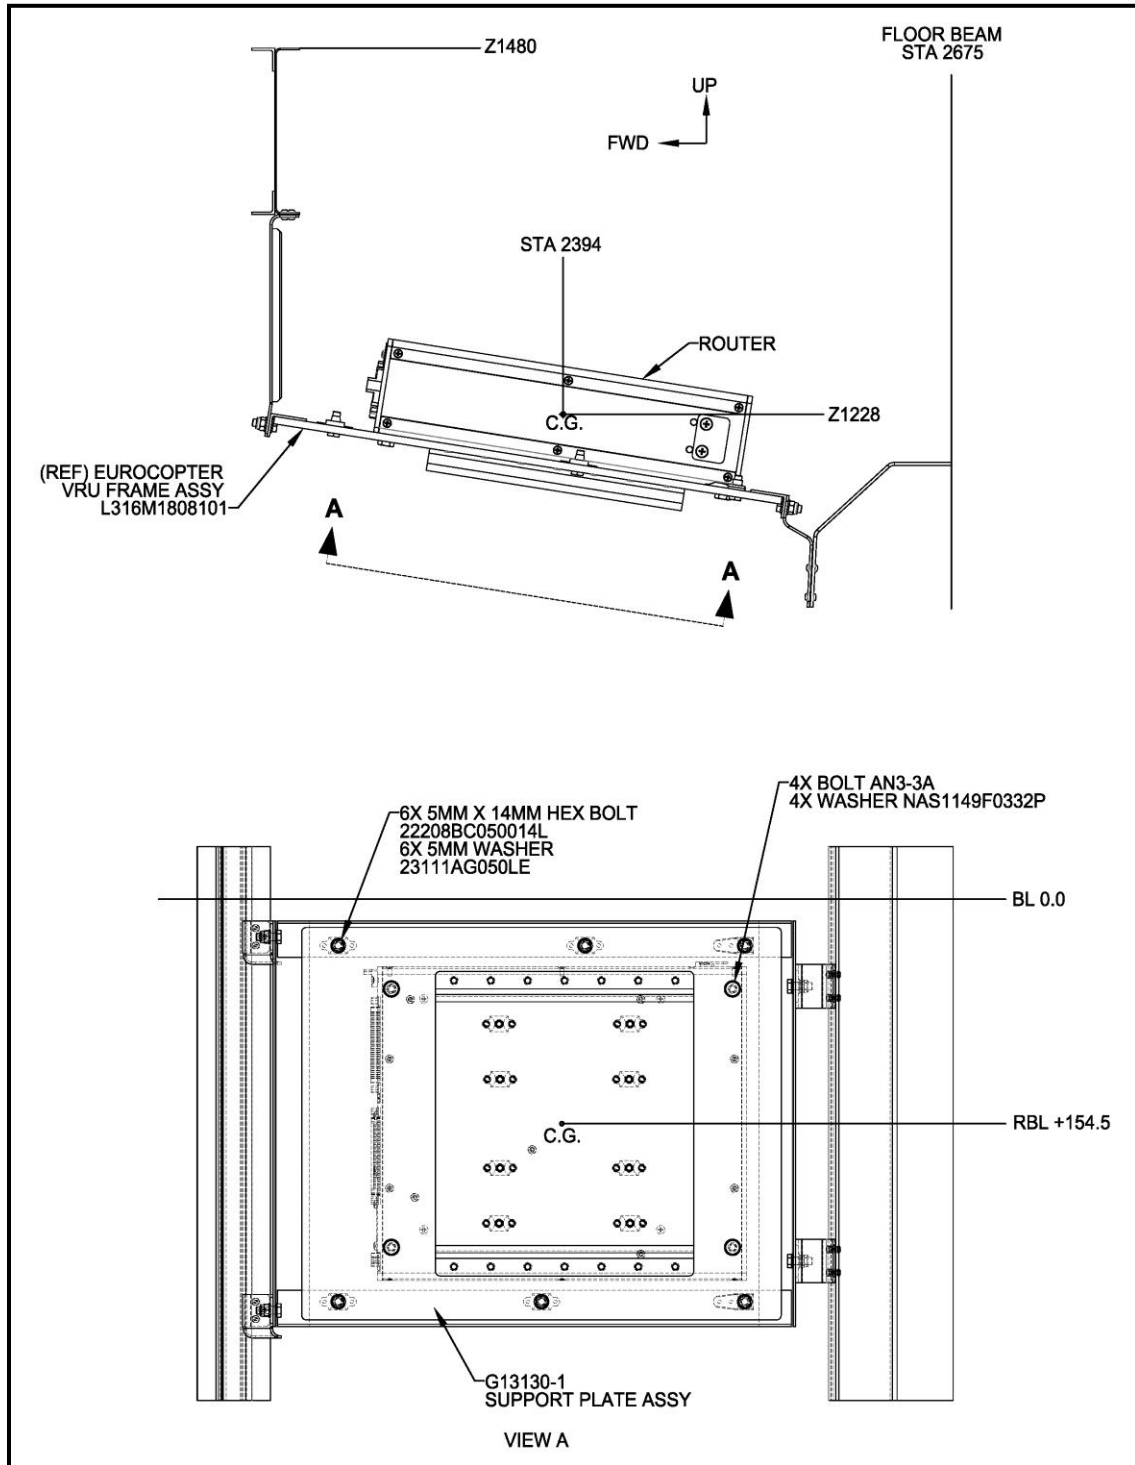
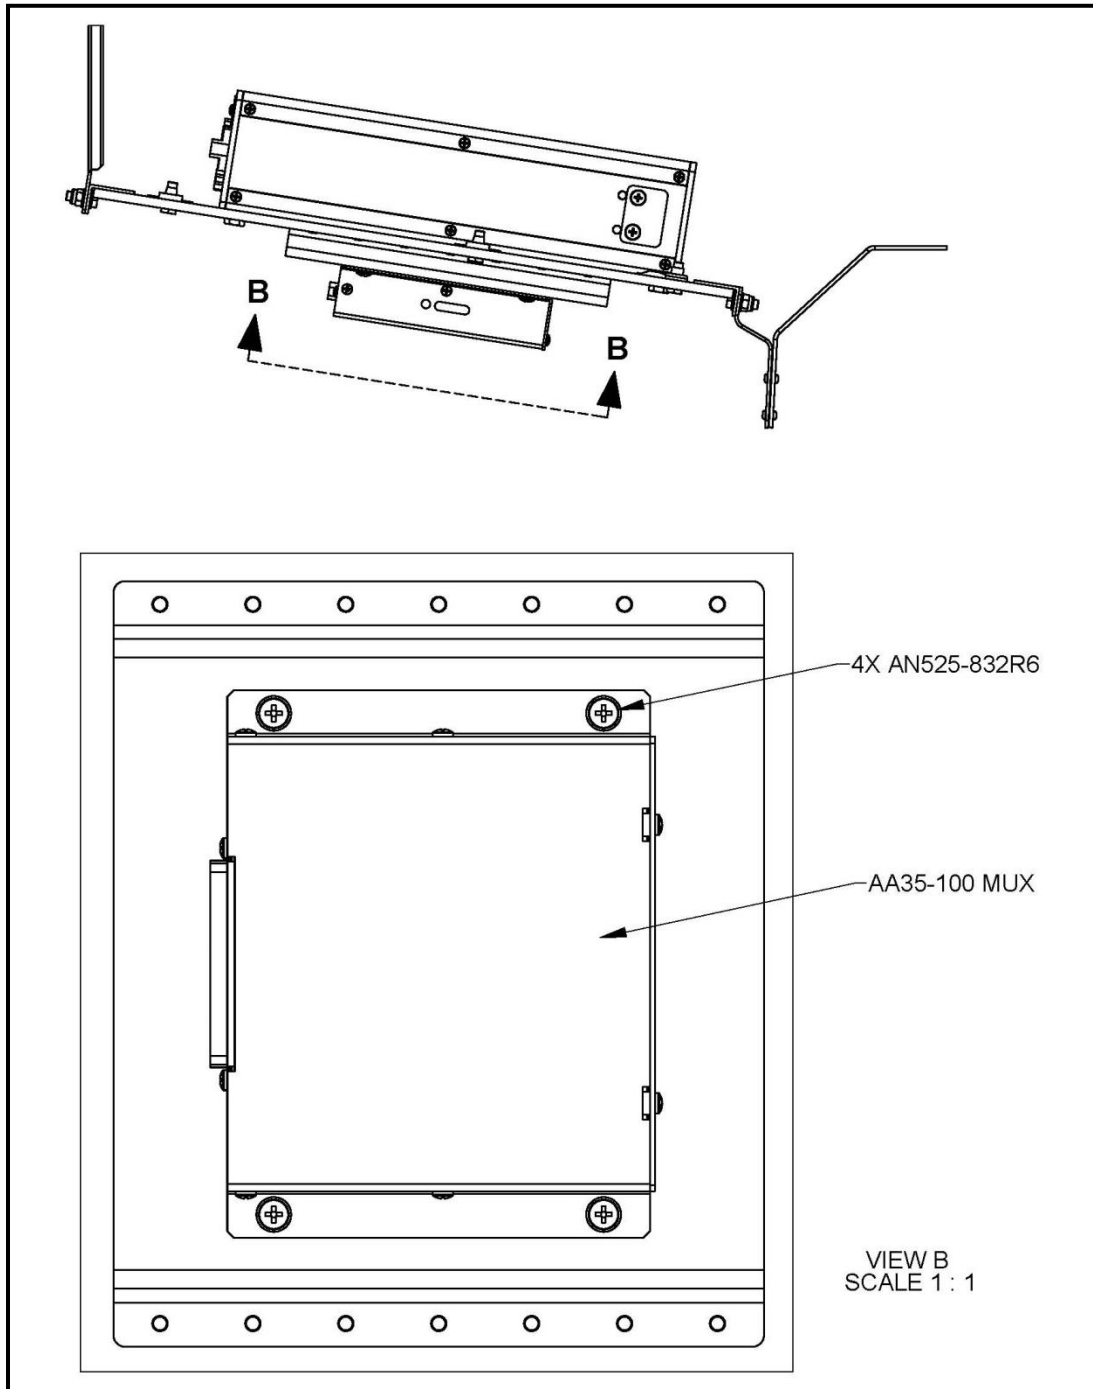
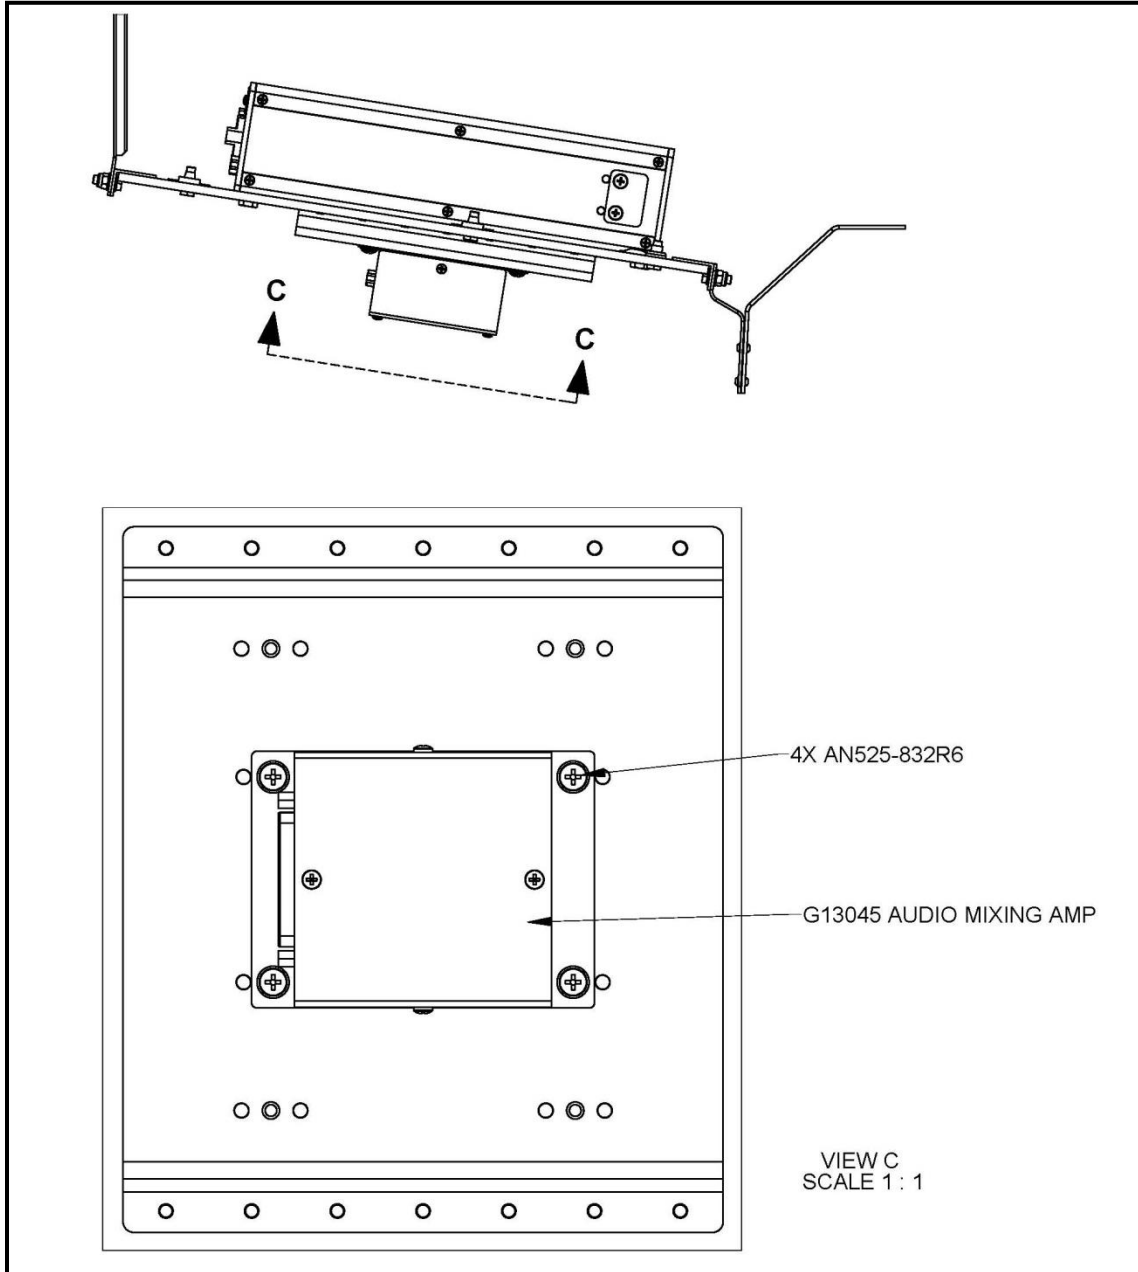

Figure 12: EC135 FWD Belly Panel Router Installation
Figure 13: EC135 AA35-100 MUX Installation
Figure 14: EC135 Eagle G13045 AMA Installation
- c. Remove (6) 5mm hex bolts securing the support plate to the VRU Frame as shown in Figure 12.
- d. Remove (4) AN3-3A bolts securing router to the support plate.
- e. If either the AA35-100 Mux Unit or Eagle Copters G13045 Audio Mixing Amp is installed, remove (4) AN525-832R6 screws securing unit to the support plate as shown in Figure 13 and Figure 14.
- b. Mount Router onto Support Plate G13130-1 using (4) AN3-3A bolts as shown in Figure 12.
- c. Install (6) 5mm x 14mm hex bolts securing the support plate to the VRU Frame.
- d. If either the Optional AA35-100 Mux Unit or Eagle Copters G13045 Audio Mixing Amp is to be installed, mount units to support plate using (4) AN525-832R6 screws as shown in Figure 13 and Figure 14 .